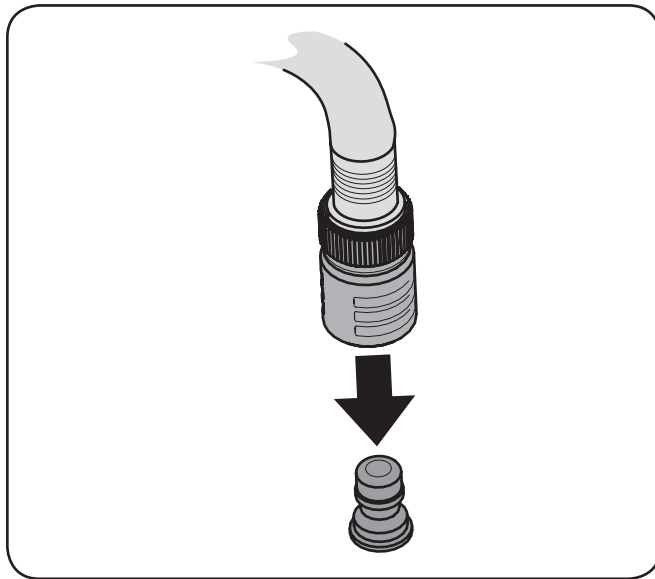

Figure 6-3
3. Thread the hose coupler (packaged with your tractor's Operator's Manual) onto the end of your garden hose. Attach the hose coupler to the water port on your decks surface. See Fig. 6-3.